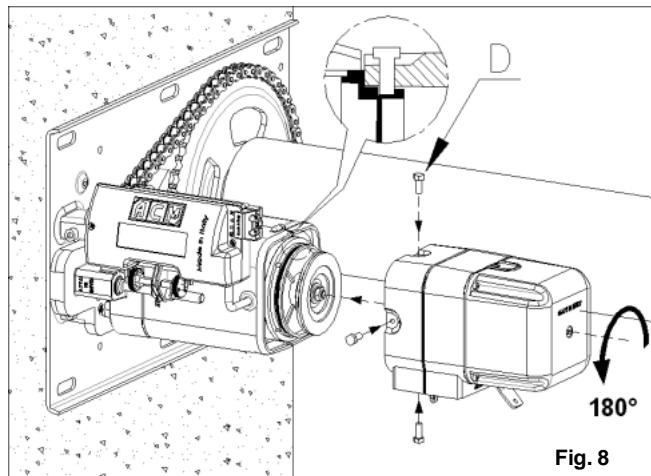
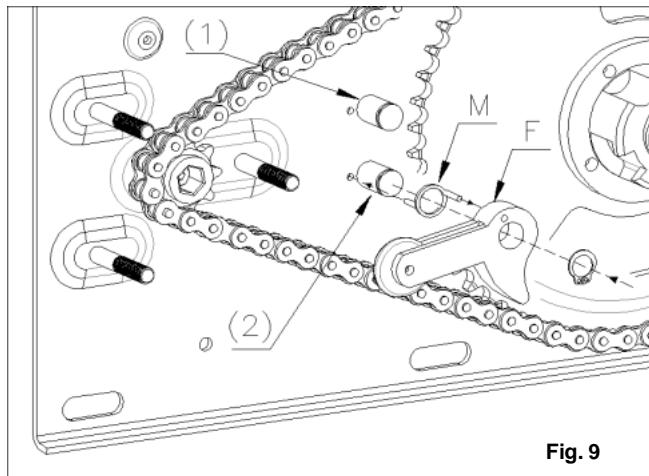

Fig. 8
Fig. 9
The gearmotor provided is configured for installation to the right of the shutter seen from inside. However the system is arranged to be installed on both right and left as shown in Fig. 8 and 9. After fixing the winding shaft, assemble the motor on the bracket transmission by matching the three pins with the respective locations of the gear unit (see Figure 4). At this point push the stop bracket on the engine, fitting the trap hex drive shaft in the seat of the toothed pinion. Tighten the gear motor using the three M10 nuts.
EN - For the configuration on the left of the gear motor, proceed as follows: Unscrew the 4 screws (D) shown in Figure 8 to release the electric brake assembly. Rotate the brake assembly 180 ° rotation in such a way that the chain, used for the manual operation, is facing perpendicularly downward. At this point push the brake assembly to overcome the resistance of the internal spring and proceed to tighten the 4 screws that were previously loosened. **Caution:** verify that the 4 screws fit properly into the groove of the electric motor as shown in the Figure 8 detail. This operation is essential for the proper functioning of the electric brake assembly. For the configuration on the left of the transmission bracket, proceed as follows: Remove the parachute system from the pin (1) and turning it 180 °, mount it on the pin (2) as shown in Figure 9; Insert the spring (M) between the two holes formed respectively on the bracket and on the parachute system. At this point, collapse the group and secure it with the snap ring.